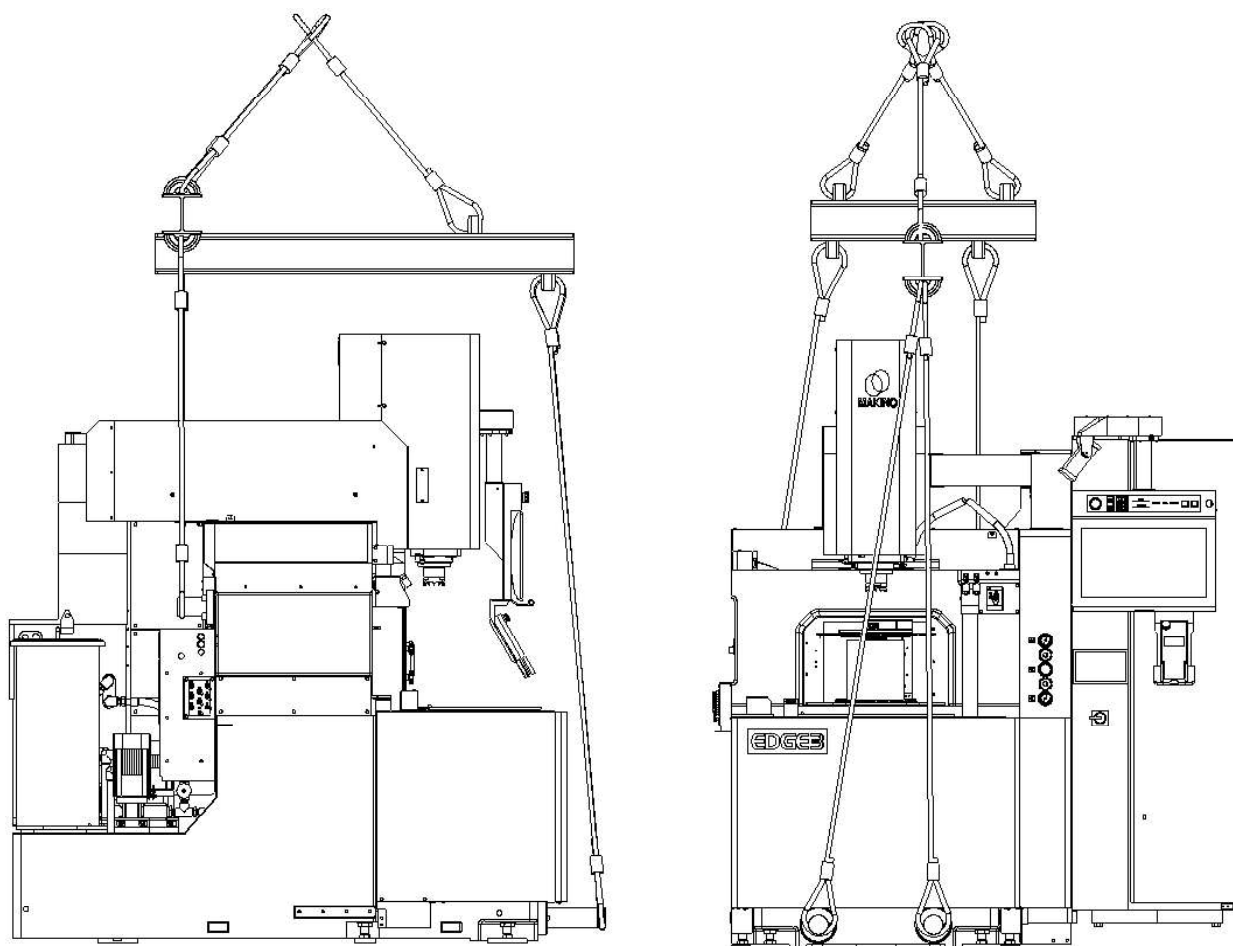

Fig. 2.1-7 Machine lifting positions
(10) Hook wire ropes on to the lifting bars on the machine and connect the other end of the wire ropes to the lifting frame as shown in the figure.
(11) Lift the machine as show in Figure 2.1-7.